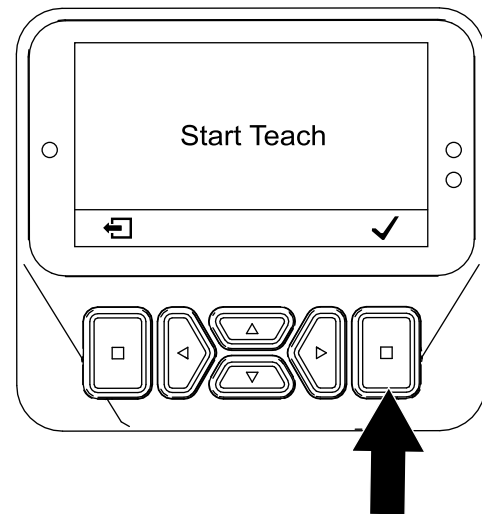

Figure 63
5. On the PRESS OK TO START TEACH screen (Figure 63), press the select button.